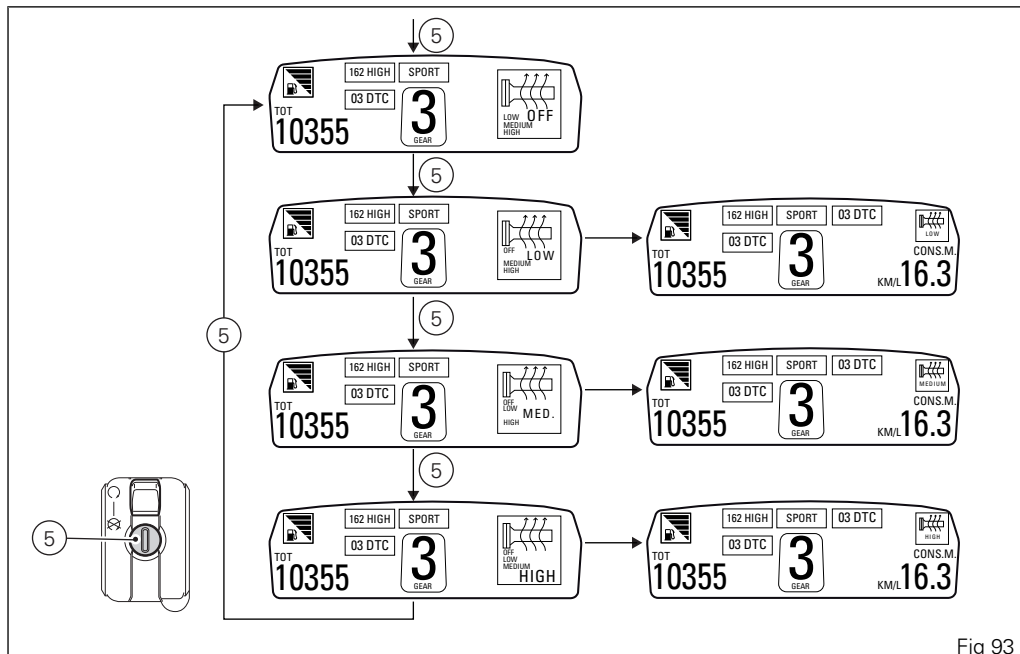

Fig 93
- with Menu 2 enabled (Fig 93);